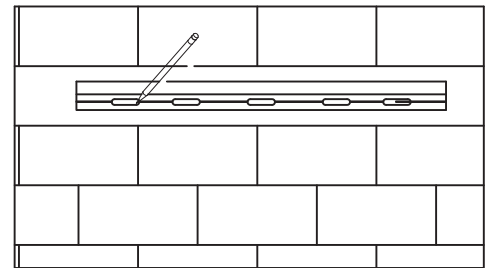

Fig 7
2. Place bottom of wall bracket on horizontal line and at correct position left to right and mark holes on wall (Fig 7).